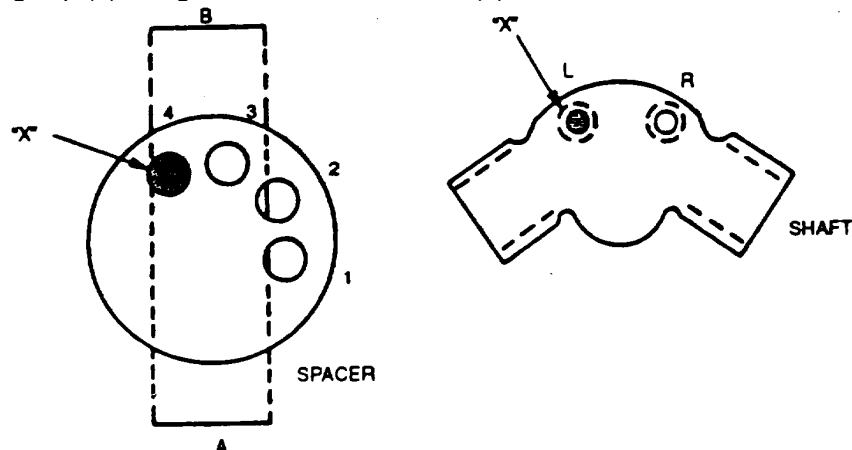

FIGURE 3-66. Disassembly of Throttle Shaft Assembly
o. If damaged, disassemble throttle shaft assembly as follows, refer to FIGURE 3-66.